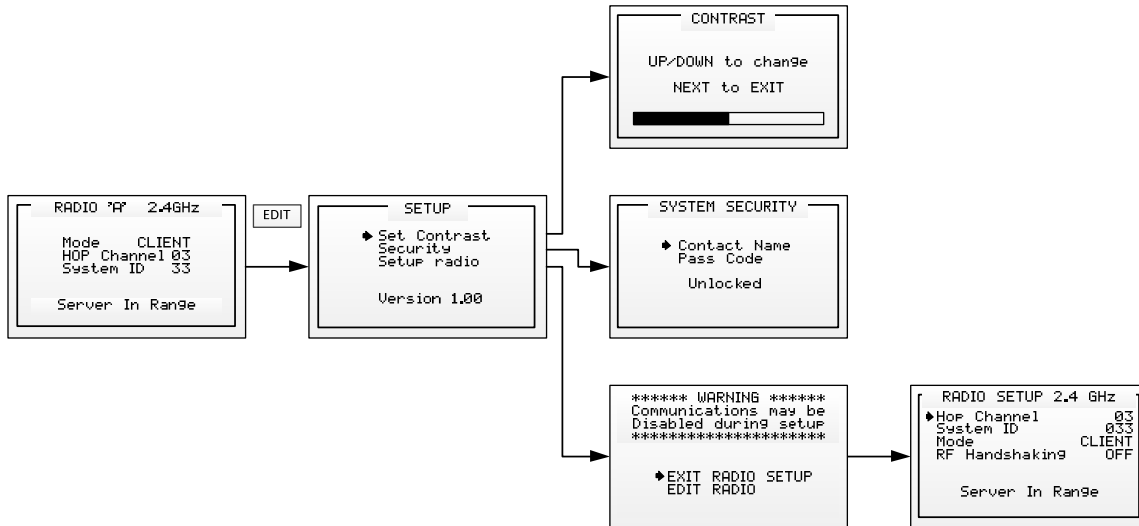

Figure 5-1: Configuration Menu Tree
- **Mode** may be set for CLIENT or SERVER. For a single ST-96 communicating to multiple transceivers, **Mode** is set to Server at the Master for the initial network and the secondary network Server is set at the ST-96 repeater (see Figure 5.1). If an application calls for the ST-96 plus additional ST-71 or ST-90/QUAD locations, only one may be set for Server and all others must be Clients. This single Server transmits a beacon for each of this network's Clients to synchronize to.
All ST-96 configuration variables are stored in its non-volatile menu database. Upon installation, many menu items will contain default values from the factory and require changes to better match a user's particular application. ST-96 menus may be configured from the magnetic keypad in just a few minutes. The configuration menu tree is shown in Figure 5-1 and each menu's description follows.